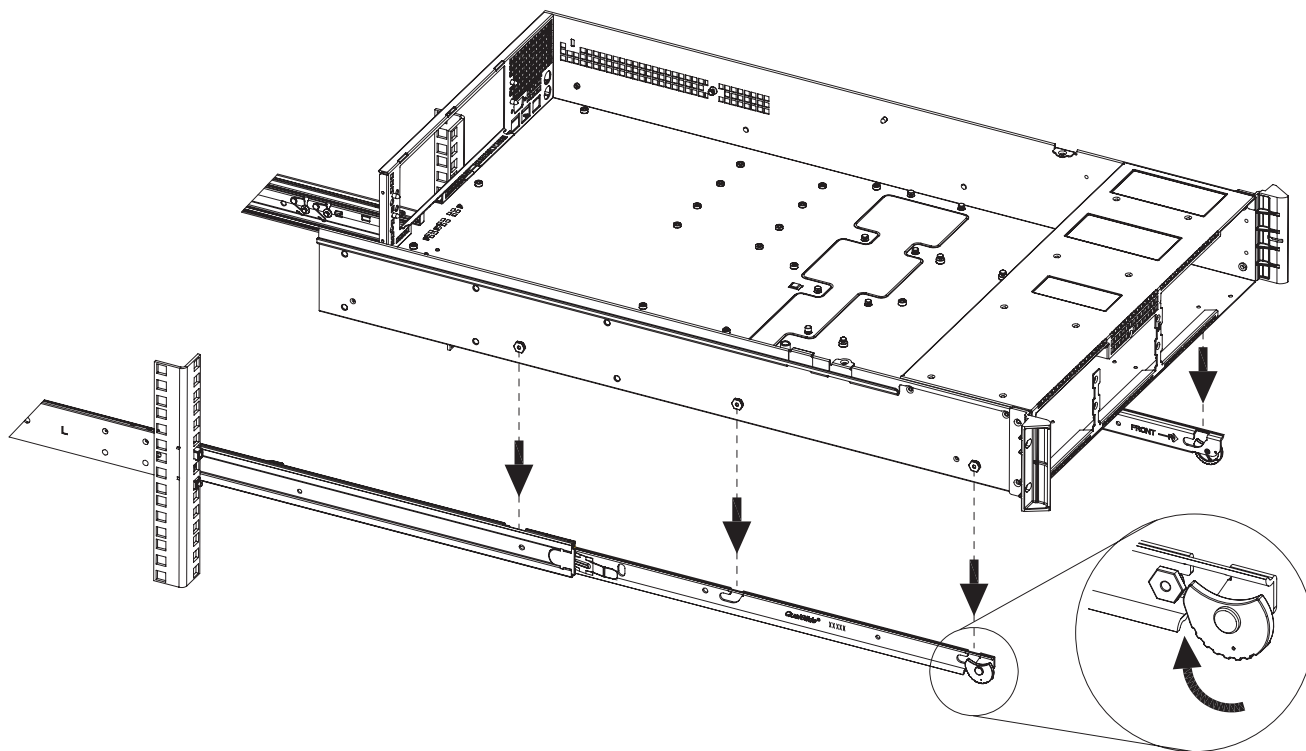

Figure 2-4 Attaching Chassis to Rail Slides
3. Attach the chassis to the rail slides as shown in the example in Figure 2-4.